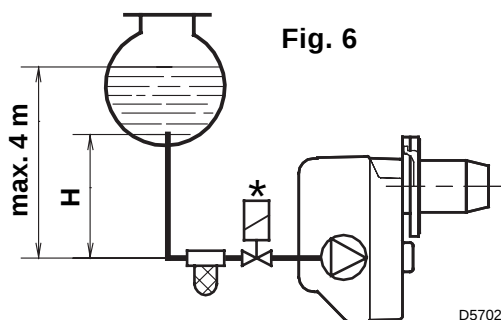
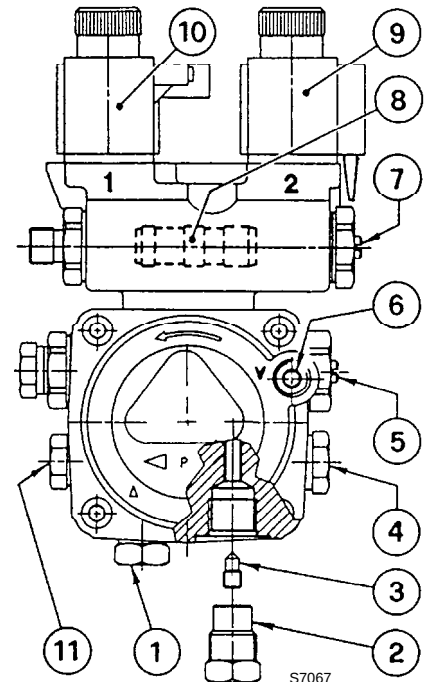

Fig. 6
Fig. 7
- The pump is designed to allow working with two pipes. In order to obtain one pipe working it is necessary to unscrew the return nut (2), remove the by-pass screw (3) and then screw again the nut (2), (see fig. 7).
On the system in fig. 6 it is sufficient to loosen the suction gauge connection (6, fig. 7) and wait until oil flows out.